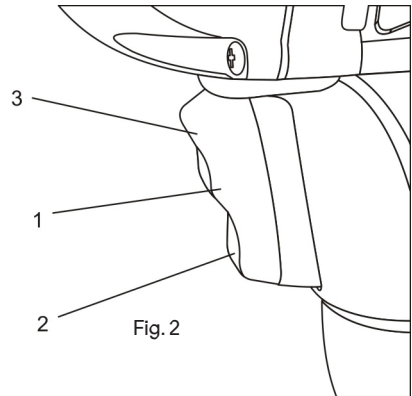

Fig. 2
This impact wrench is equipped with a rocker style forward/reverse switch (1) (Fig. 2).
1. To operate the impact wrench in the forward direction, press and hold the bottom part of the switch (2). The socket will rotate in a clockwise direction to **tighten** the fastener.